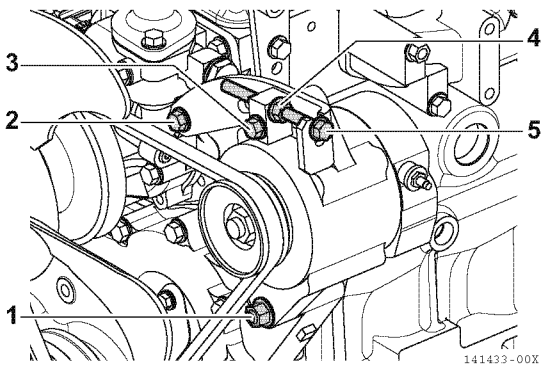

Figure 5-3
- 1- Loosen the attaching nut (1, **Figure 5-3**) under the alternator, belt adjuster mounting bolt (2, **Figure 5-3**), and belt adjuster tightening bolt (3, **Figure 5-3**).
- 2- Loosen the adjuster bolt lock nut (4, **Figure 5-3**) and adjust the tension by turning the adjuster bolt (5, **Figure 5-3**). (Turn the adjuster bolt clock wise to stretch the belt.)
3- After adjusting with the adjuster bolt (5, Figure 5-3), in the following order, tighten the tightening bolt (3, Figure 5-3), belt adjuster mounting bolt (2, Figure 5-3), attaching nut (1, Figure 5-3), and then the lock nut (4, Figure 5-3) at last.